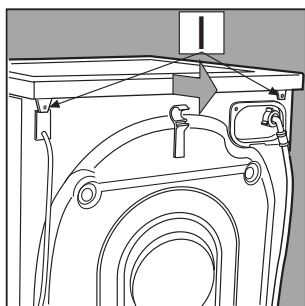

Fig. 1
2. Remove the covering lid by unscrewing the two screws **I**, and then pull it towards you [fig. 1].